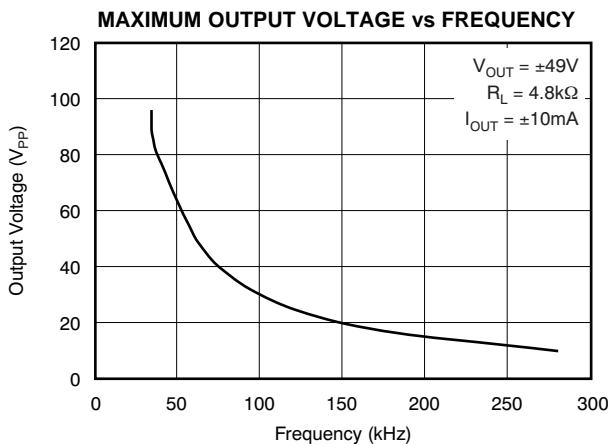

Figure 12.
(5) See Typical Characteristic curves.
(6) See typical characteristic curve, *Maximum Output Voltage vs Frequency* (Figure 12).
(7) See the Applications Information section, Settling Time.